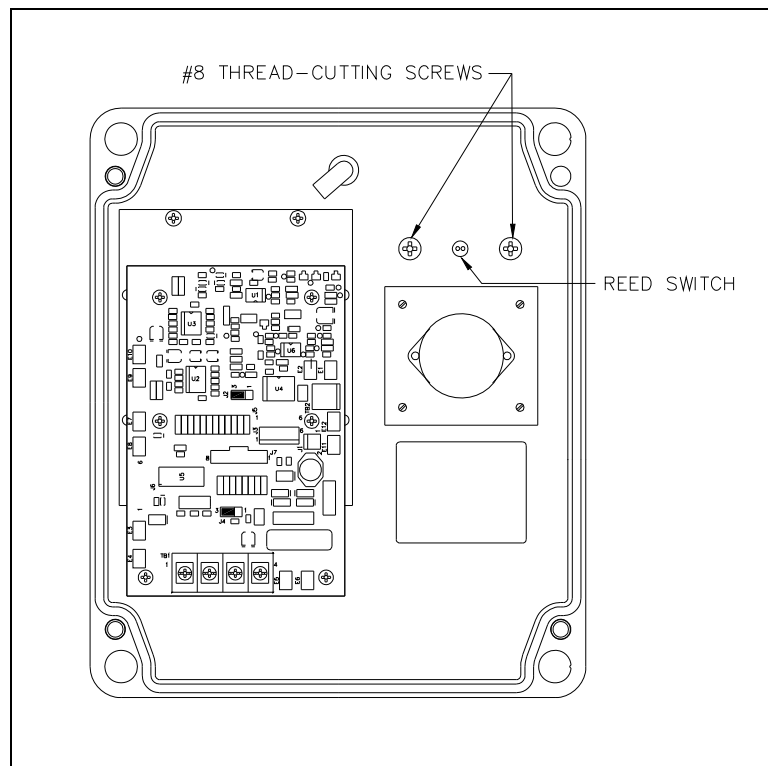

Figure 1.
5. Remove the two screws that secure the handset cradle to the front cover. See Figure 1.
9. Thread the blue and white reed switch leads through the center top hole. See Figure 1.
10. Secure the plastic cradle on the front cover using the two #8 thread-cutting screws. See Figure 1.
8. Thread the reed switch leads through the center top hole. See Figure 1.
9. Secure the plastic cradle on the front cover using the two #8 thread-cutting screws. See Figure 1.